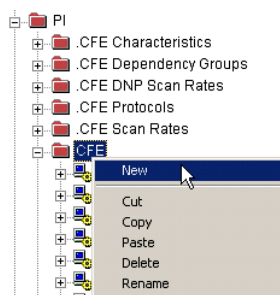

Figure 3-2.2: Creating a New CFE Server
1. Right-click on the parent instance 'CFE' in the Overview Pane and select **New** (Figure 3-2.2) from pop-up menu that appears (or click the "New Instance" item of the Insert menu called from the Tool bar instead).